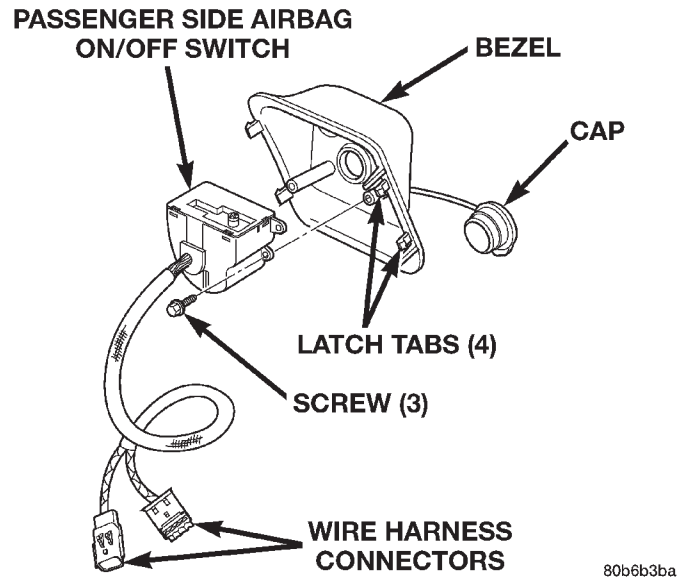

Fig. 16 Passenger Side Airbag On/Off Switch Remove/Install
(4) Still reaching through the glove box opening, disengage the passenger side airbag on/off switch wire harness from the retainer clip on the plenum bracket that supports the heater-A/C housing just inboard of the fuseblock module.
(5) Remove the full floor console or mini-floor console from the floor panel transmission tunnel. Refer to **Full Floor Console** or **Mini Floor Console** in the Removal and Installation section of Group 23 - Body for the procedures.
(6) From the underside of the console, remove the three screws that secure the passenger side airbag on/off switch to the back of the switch bezel (Fig. 16).
(7) Remove the passenger side airbag on/off switch from the switch bezel.